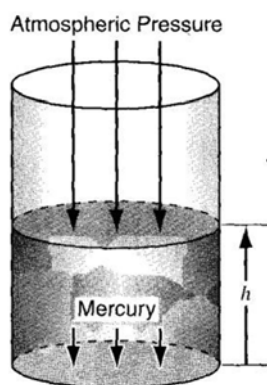

Figure 5.1 Pressure is the normal force per unit area. Arrows show the force exerted on the respective areas
**Pressure** is defined as “the normal (perpendicular) **force** per unit **area** (Figure 5.1). The pressure at the bottom of the static (nonmoving) column of mercury exerted on the sealing plate is
**For Example**, suppose that the cylinder of fluid in Figure 5.1 is a column of mercury that has an area of  $1 \text{ cm}^2$  and is  $50 \text{ cm}$  high. The density of the Hg is  $13.55 \text{ g/cm}^3$ . Thus, the force exerted by the mercury alone on the  $1 \text{ cm}^2$  section of the bottom plate by the column of mercury is